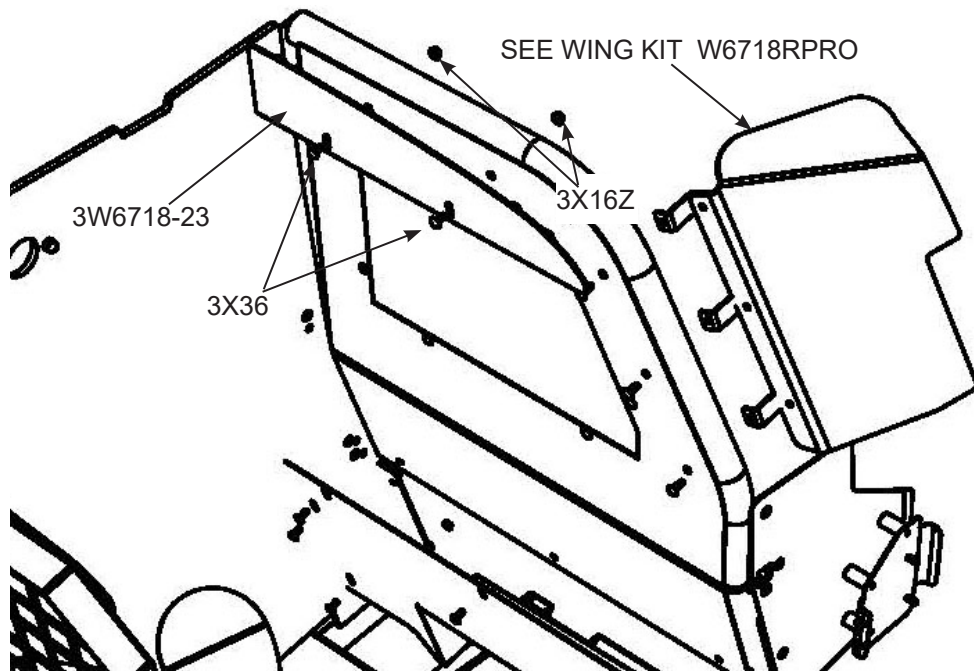

Fig. 11
- A. Locate partition filler wing (3W6718-23) against divider and ceiling, then mark hole locations. Drill 5/16" holes and fasten using bolts (3X36) and whiz nuts (3X16Z). (Fig. 11)
- A. Install per instructions found in kit (W6718RPRO) (Fig. 11)